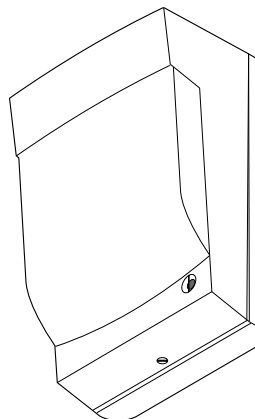

Figure 1. AP633A
1. Loosen the screw at the bottom of the unit; then remove the front housing (Figure 1).